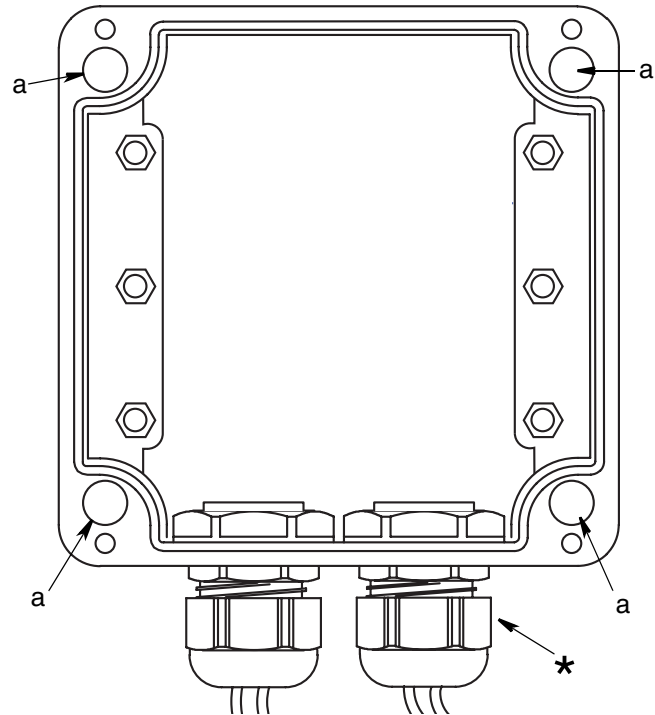

FIG. 3
2. Remove Lubrication Controller cover and align junction box with predrilled holes (FIG. 3, (a)). Use four,